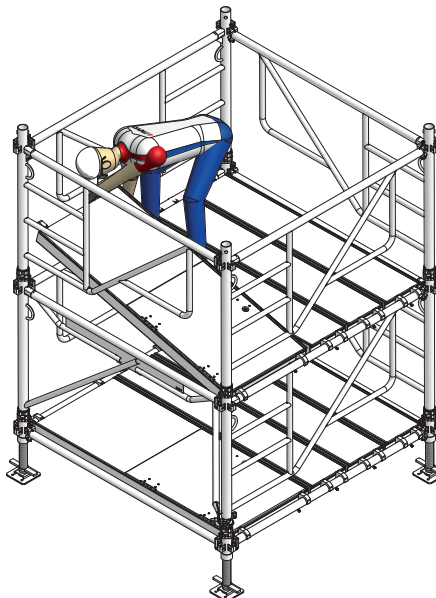

Fig. 10.2
13. Ascend to level 1 and suspend the scaffold platform 170/68 with access hatch (Fig.10.2)